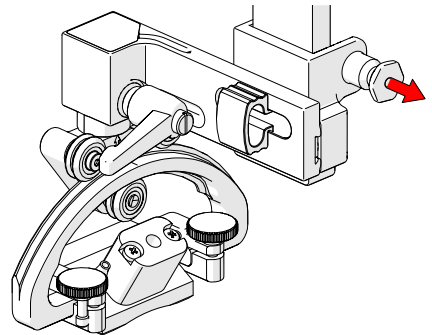

Fig. 57 - Pull latch pin
2. Pull the latch pin to allow movement of the probe holder (Fig. 57).